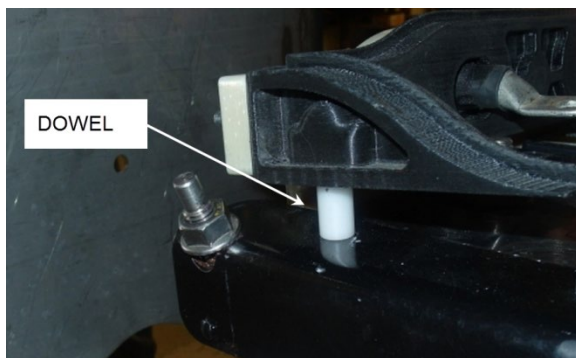

FIGURE 57: DOWEL ON ANGLE
- Align the dowels on the angles with the holes on the cable guides (FIGURE 57).